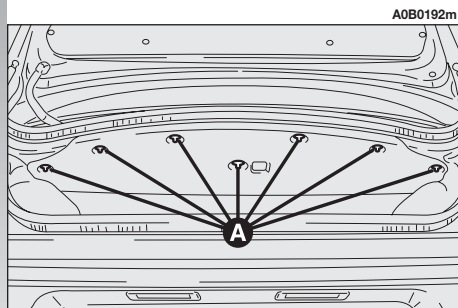

fig. 48
- Turn the fastening buttons (**A-fig. 48**) until they release and lower the trim.